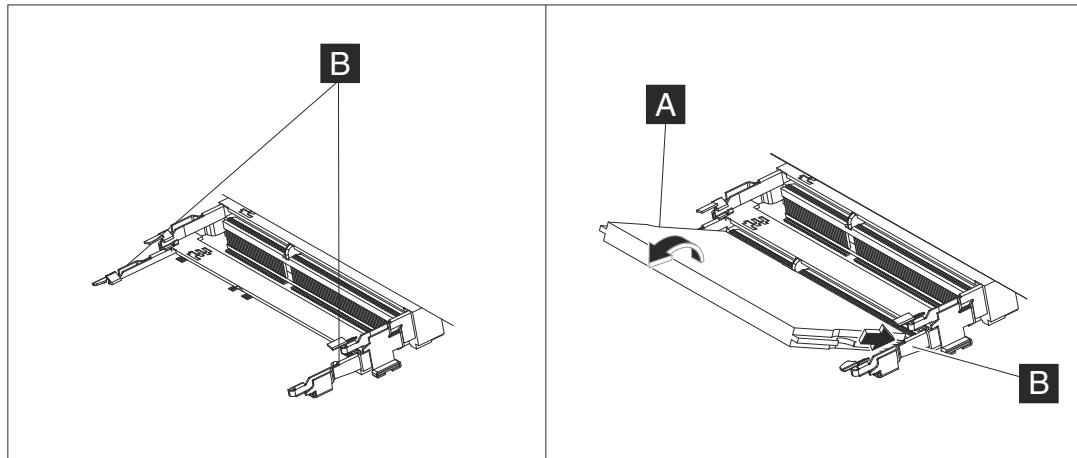

Figure 13. Inserting the SO-DIMM into the connector
1. Open the retaining clips on each end of the SO-DIMM connector (see **B** in Figure 13).